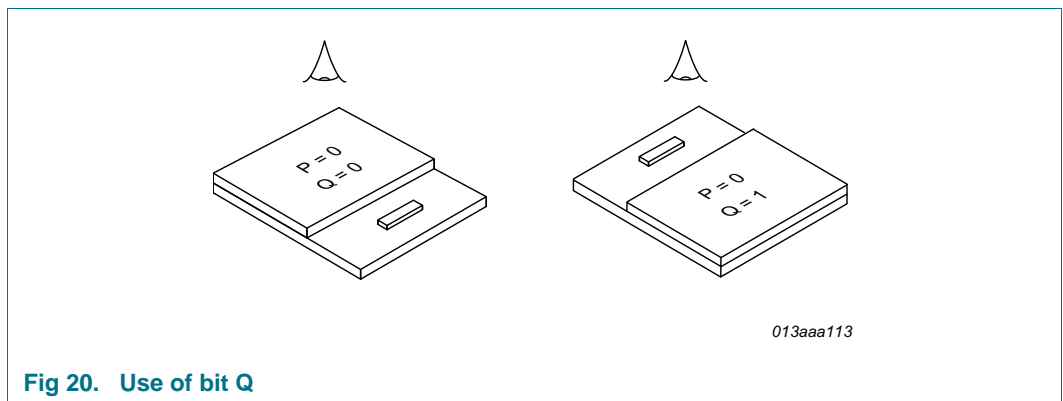

Fig 20. Use of bit Q
**Bit Q:** The Q bit flips the display top to bottom by mirroring the row data, as shown in Figure 20.